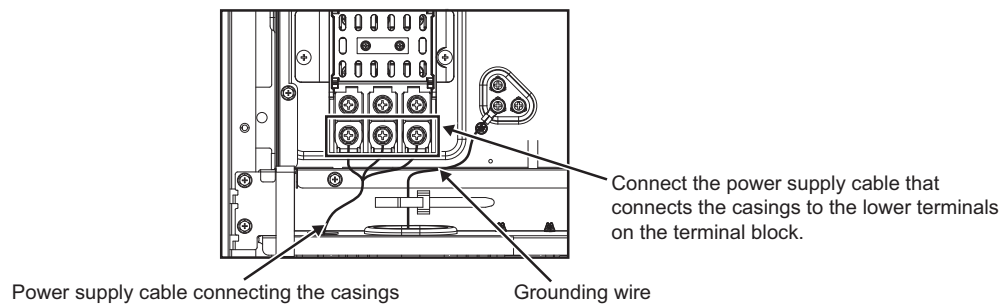

Fig. 5
*After servicing, reconnect the removed cables, ensuring that the power supply cable is connected to the correct location. (Fig. 5)
- (4) Remove the pipes from inside the unit, cutting them as necessary.
- (5) Put the spacers and saddles along the markings on the lower piping ASSYs (gas pipe) to be replaced, and temporarily secure them. (Four screws: Fig. 5)